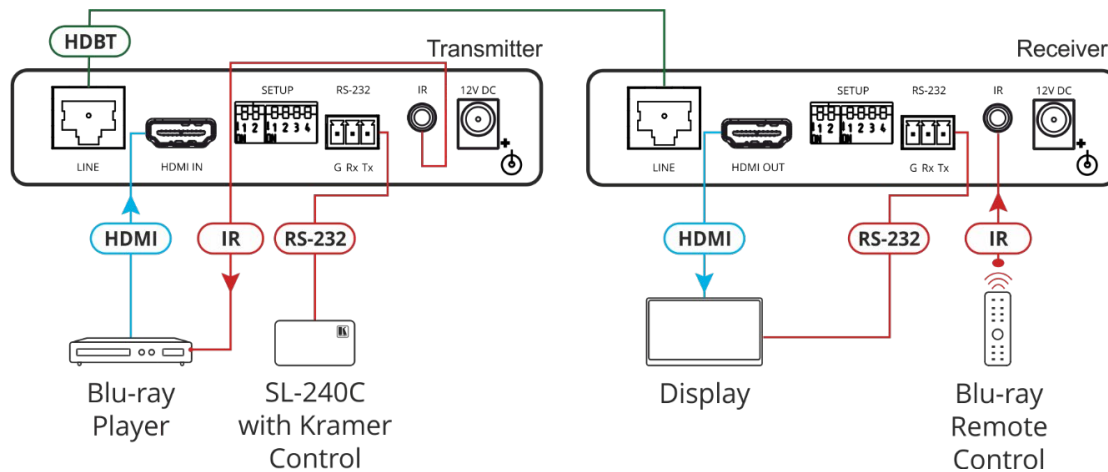

Figure 3: Connecting the extenders
To connect the **TP-583Txr** and **TP-583Rrx** as illustrated in the example in Figure 3:
1. On **TP-583Txr** connect an HDMI source (for example, a Blu-ray player) to the HDMI IN connector (6).
2. On **TP-583Rrx** connect the HDMI OUT connector (16) to an HDMI acceptor (for example, a display).
3. Connect the LINE RJ-45 (5) connector on **TP-583Txr** to the LINE RJ-45 connector on **TP-583Rrx** (15).
- On **TP-583Txr** connect a controller (for example, **SL-240C** room controller) to the RS-232 3-pin terminal block connector (8).
- On **TP-583Rrx** connect the RS-232 3-pin terminal block connector (18) to the RS-232 control port on the display.
- On **TP-583Txr** connect the IR 3.5mm mini jack (9) to an IR emitter cable and connect it to the Blu-ray IR sensor.
- On **TP-583Rrx** connect the IR 3.5mm mini jack (19) to an IR sensor (receiver) cable.
6. Connect the power adapters to both extenders and to the mains electricity (not shown in Figure 3).